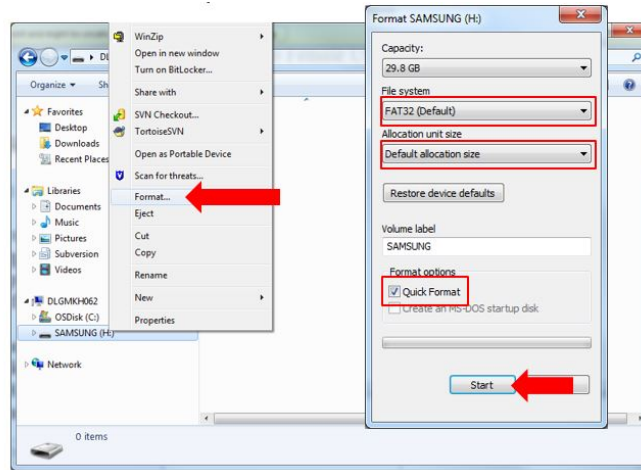

Fig. 7
14. Perform the following steps to format the USB flash drive Fig. 7.